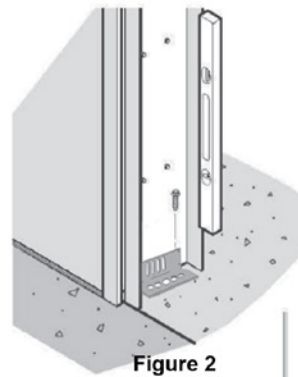

Figure 2
3. When the door is plumb, bolt the door to the floor with the base clips and the anchor bolts provided. (Figure 2)